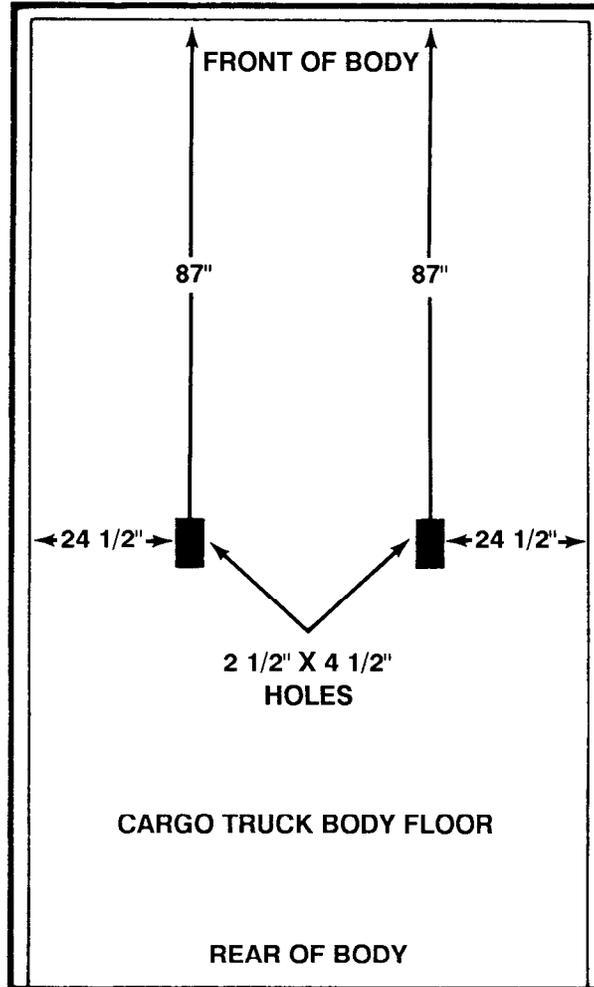
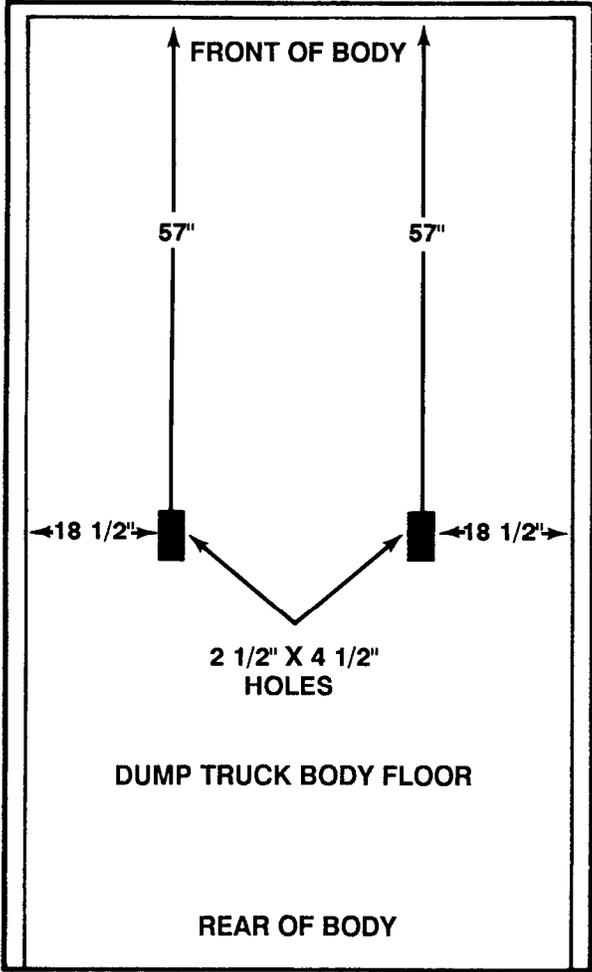

Figure 4-3. Access holes cut in the body of the cargo truck
Figure 4-4. Access holes cut in the body of the dump truck
(3) Access holes must be made in the body of the trucks. Figure 4-3 shows the location of the access holes in the body of the cargo truck. Figure 4-4 shows the location of the access holes in the body of the dump truck.
b. LAPE Airdrop. The truck must be modified as described in 4-3 a(1) and (3).